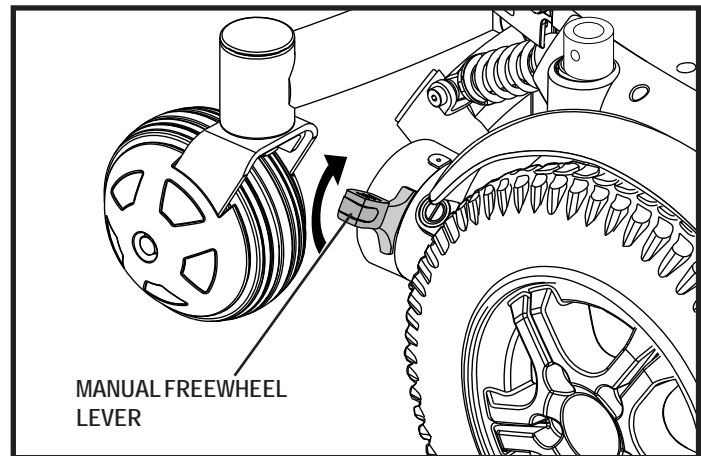

Figure 5. Freewheel Mode (Drive Disengaged)
2. Pull up both manual freewheel levers for drive mode (drive motor engaged). See figure 5.